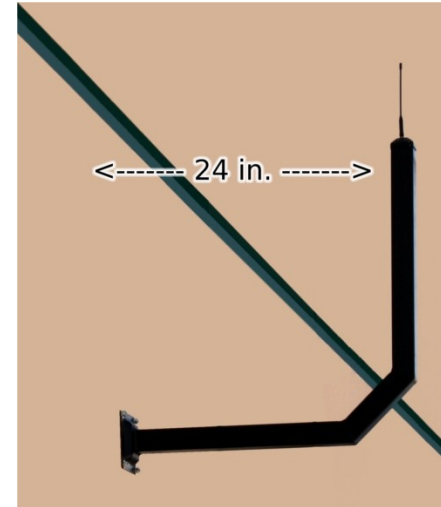

Figure 1
- 2) Ensure antenna is not installed against any metallic surface. To avoid reducing radio range install antenna at least 24" away from steel post or building structure (Figure 1).